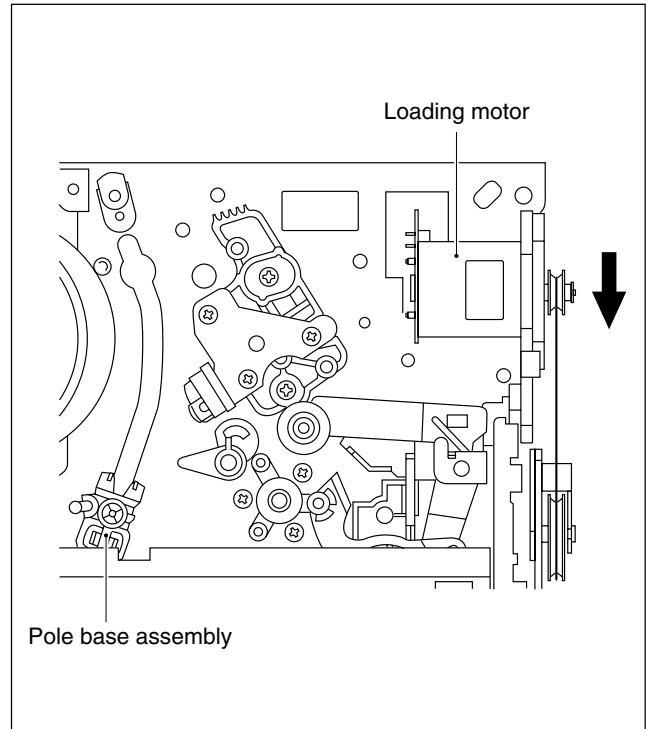

Fig. 2-1-3a
- (1) Unplug the power cable and remove the top cover, bracket and front panel assembly. (See 1.3 DISASSEMBLY/ASSEMBLY METHOD.)
- (2) Unload the cassette by manually turning the loading motor of the mechanism assembly toward the front. In doing so, hold the tape by the hand to keep the slack away from any grease. (See Fig.2-1-3a.)
- (3) Bring the pole base assembly (supply or take-up side) to a pause when it reaches the position where it is hidden behind the cassette tape.